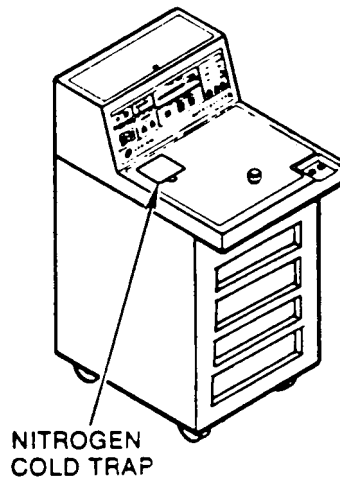

Figure 1. Varian 960 Auto-Test Mass Spectrometer Leak Detector
This procedure describes the method used for leak testing a generic test unit, using the Varian 960 Auto-Test Mass Spectrometer Leak Detector (Figure 1). This procedure assumes the Varian 960 LD is set up in the facility, calibrated, and ready to use. This procedure is not a tutorial on how the leak detector works. Refer to the Varian 960 Instruction Manual, Reference 1, for details on the Leak Detector (LD).